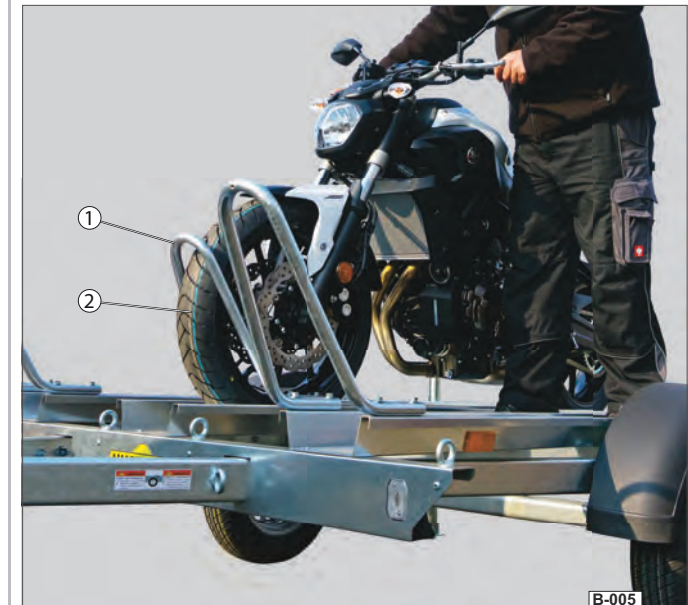

Fig. 4 Attaching the front wheel
- ▶ Drive the front wheel (Fig. 4 /2) into the stand bracket (Fig. 4 /1) until the tyre is all touching it and the handlebars can no longer be moved.